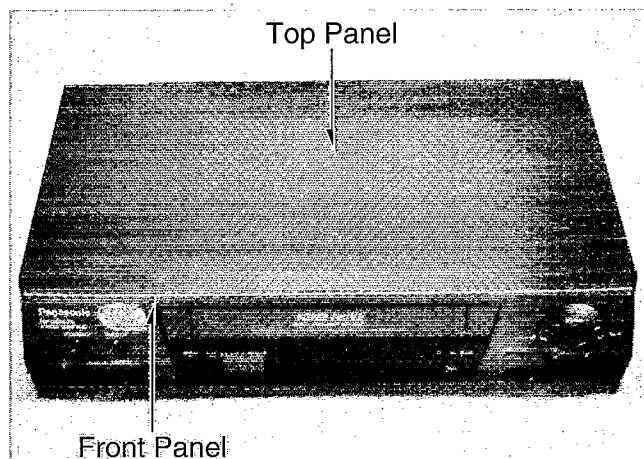

Fig. B1
- (1) Remove Top panel and Front panel unit (Fig. B1).